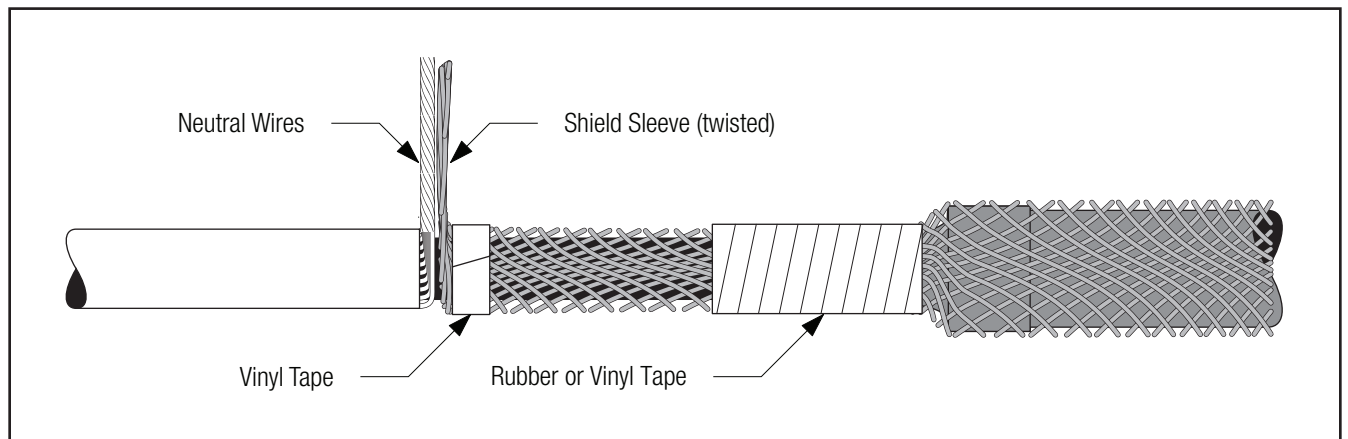

Figure 32
6.5.2 Secure sleeve to cable semi-con next to neutral wires using two wraps of vinyl tape. Cover the end of the splice body (as shown below) with two half-lapped layers of rubber or vinyl tape (*Figure 32*).